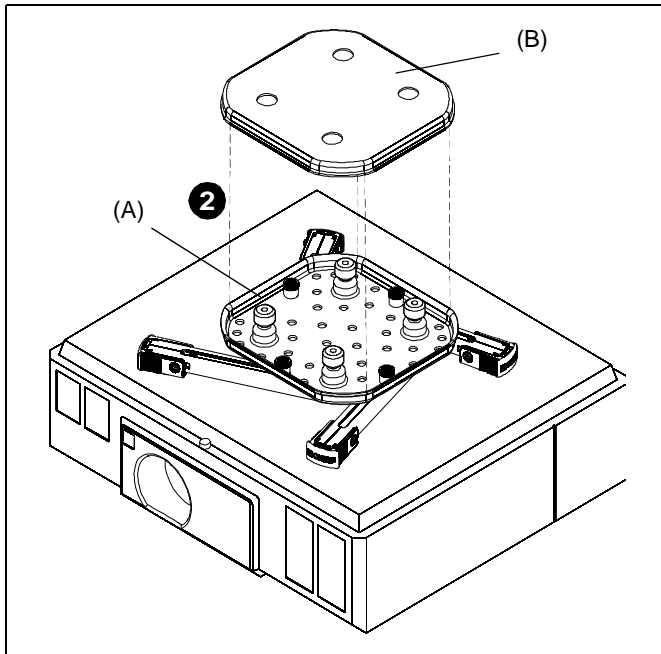

Figure 9
2. Place SSBU/SSMU base plate (B) over SSBU/SSMU interface plate (A). (See Figure 9)